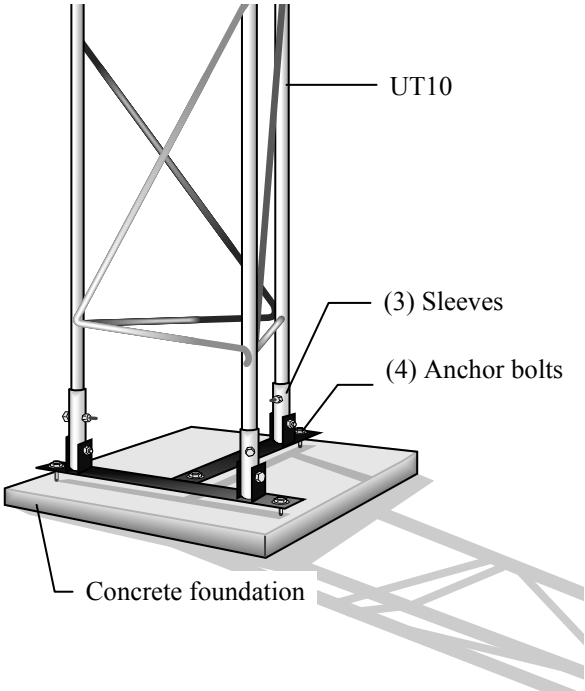

FIGURE 2.2-2. UT10 Tower and Concrete Foundation
The UT10 tower attaches to a user supplied concrete foundation as shown in Figure 2.2-2. The tilt base, anchor bolts, and nuts are included with the tower.
2. Remove the three upper bolts on the aluminum sleeves attached to the base. Loosen the nuts on the three lower bolts and position the sleeves vertically (Figure 2.2-2).